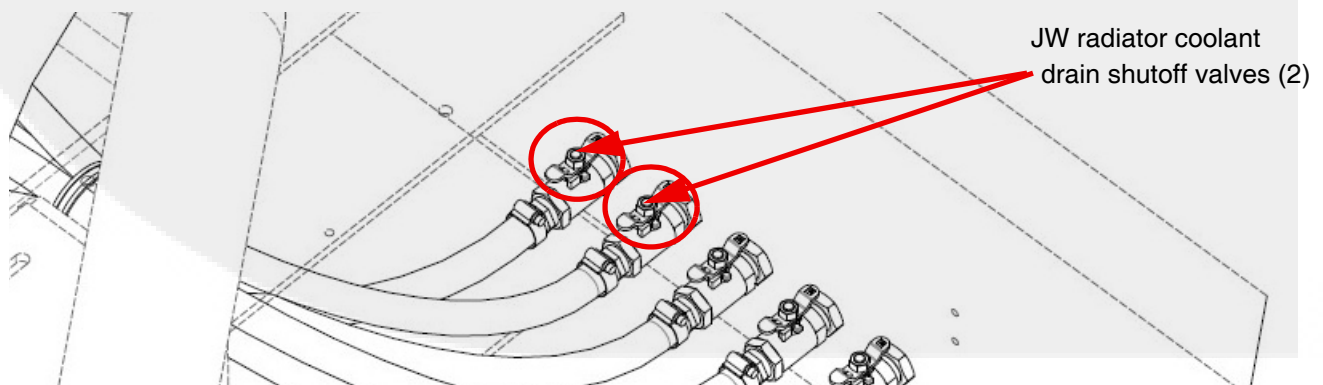

Figure 5-4 GenSet JW radiator coolant drain shut-off valves (GenSet right side)
4. As shown in Figure 5-4, check that the JW radiator coolant drain valves are closed. The JW shut-off valves are located *directly behind the JW drain holes* on the right side of the GenSet. Make sure the tee handle is perpendicular to the drain line.